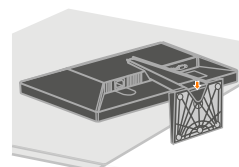

Figure 1
Step 1: To detach the base by pressing the button as shown in Figure 1.